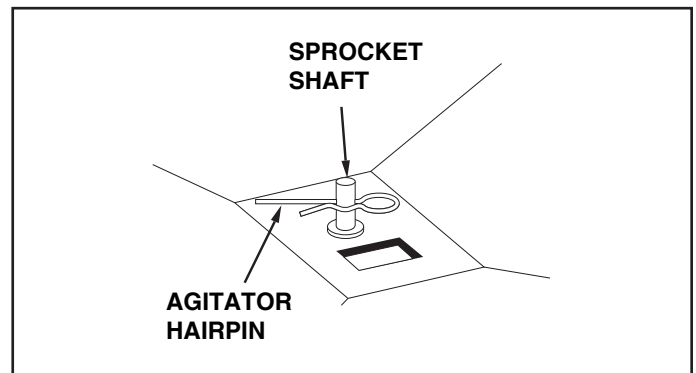

FIGURE 10
2. If the agitator hairpin becomes damaged or worn it can be replaced. See figure 10.